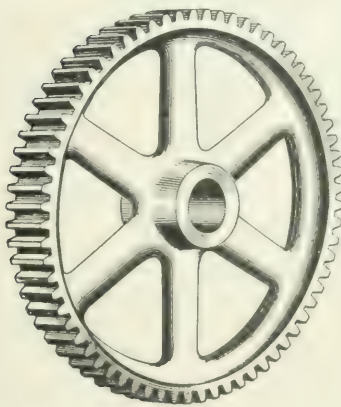

FIG. 20.
42. A wheel that is provided with teeth that mesh with similar teeth on another wheel is called a **gear-wheel**, or **gear**. In Fig. 20 is shown a **spur gear**. On spur gears